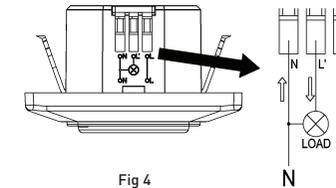

Fig 4
- Loosen the screws on the connection terminal and connect the power cables as shown in the diagram (figure 4).